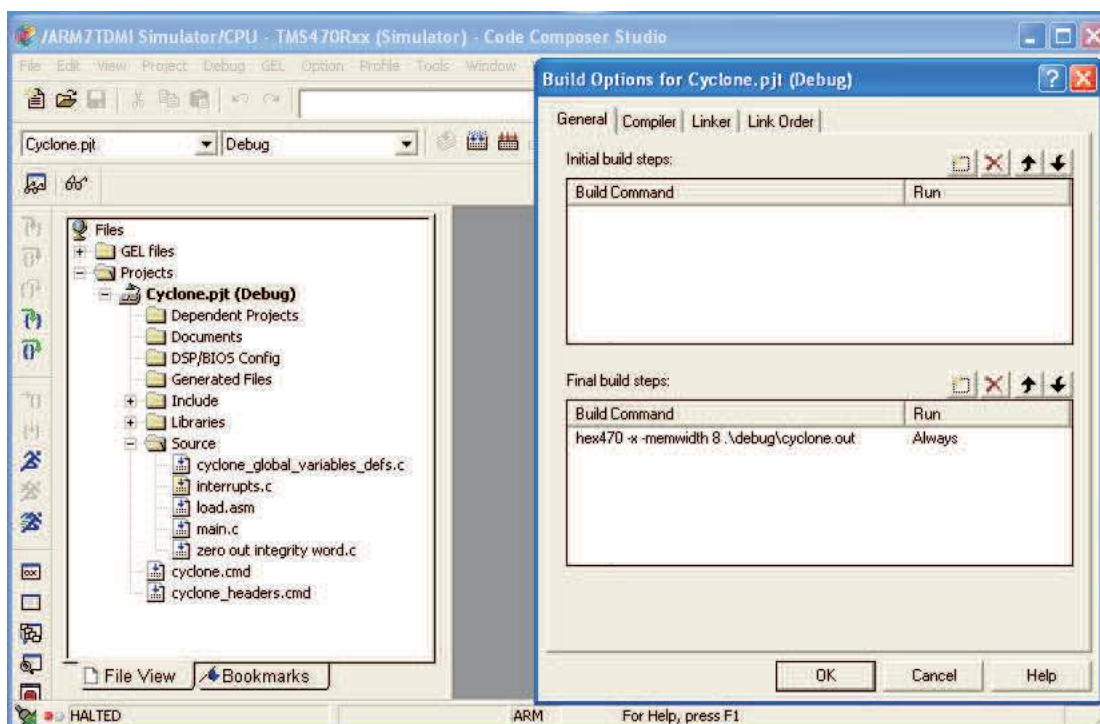

Figure 17. Open a Project File With Example of Cyclone.pjt - Build Options and General Tab
4. Convert the file *Cyclone.out* to *Cyclone.x0*. *Cyclone.x0* is the final firmware code downloaded to the UCD3138 device memories. To convert *Cyclone.out* to *Cyclone.x0*, first click the *General* tab under *Build Options for Cyclone.pjt (Debug)*, as shown in Figure 17. Second, under the *Build Command*, confirm that the file to be converted is *Cyclone.out*. Third, click *ok* to close *Build Options*.